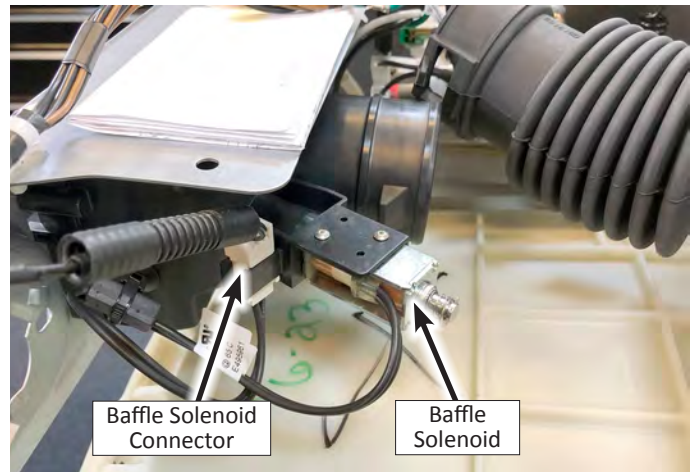

Figure 2
6. Disconnect baffle solenoid or fan connector (see Figure 2).